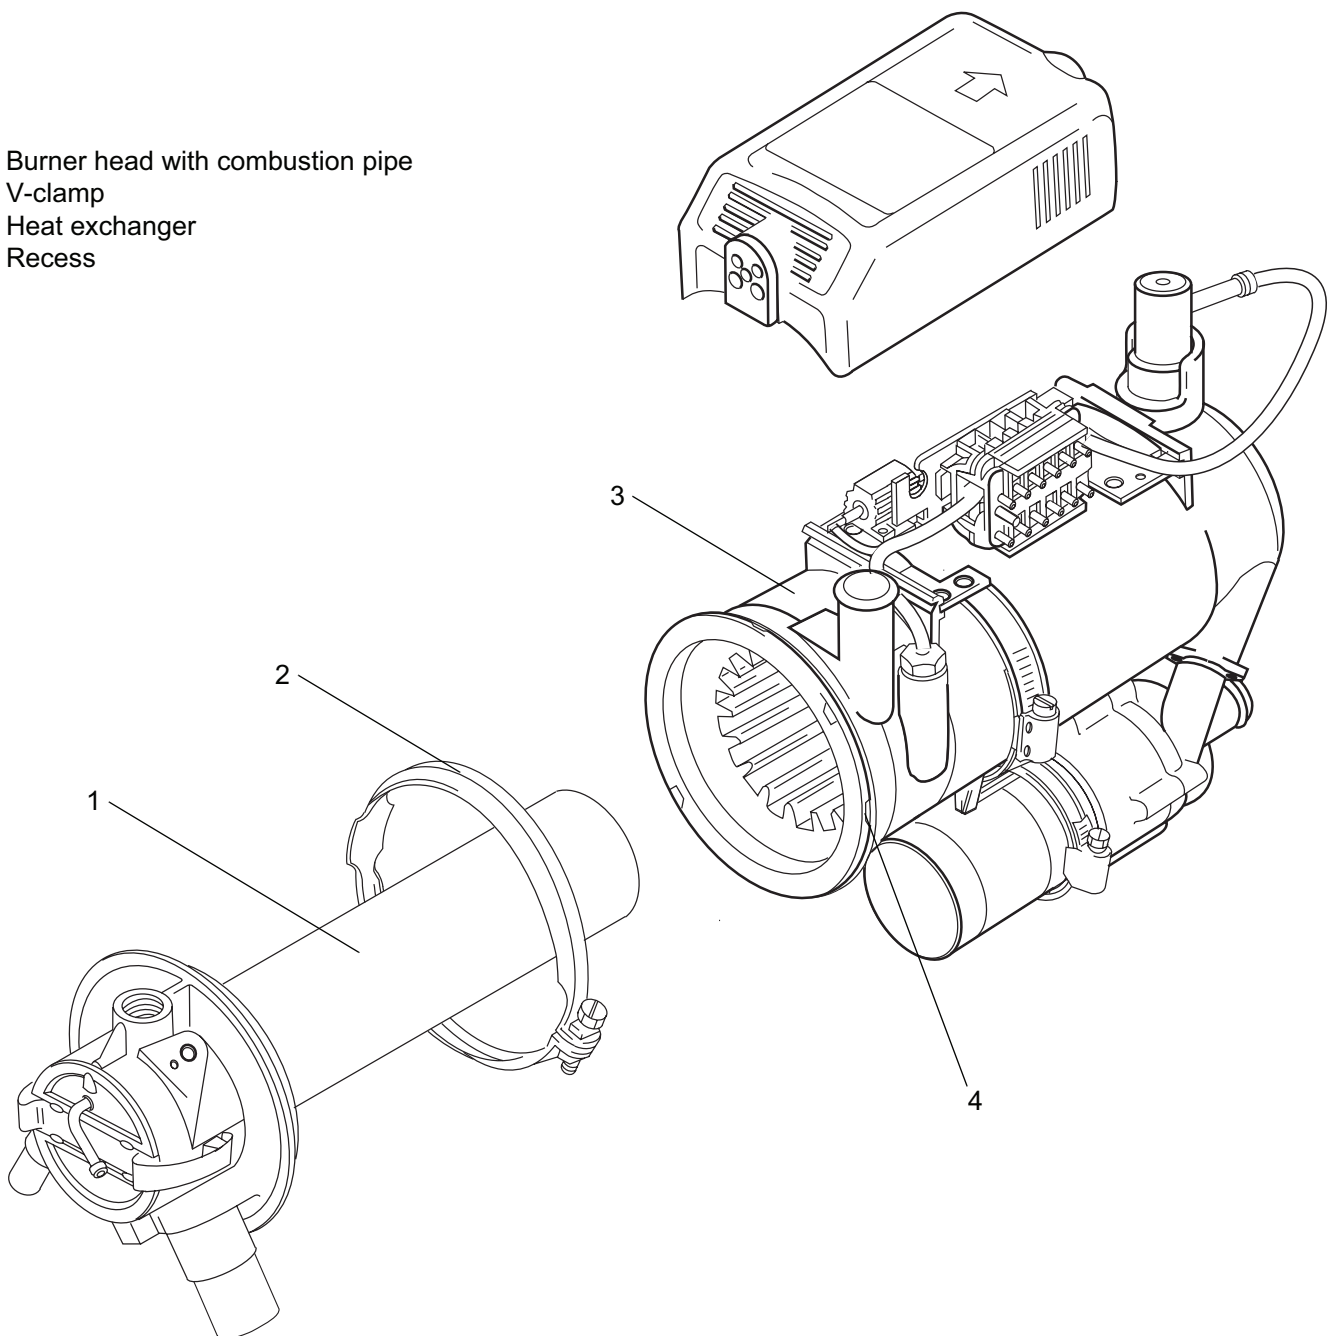

Fig. 906 Replacement of Burner Head with Combustion Pipe
6. Remove V-clamp (2, Fig. 906).
7. Engage two screw drivers in recess (4) and lever off burner head (1) and remove.
1. Locate burner head (1, Fig. 906) with combustion pipe for assembly. Apply Copaslip (Ident. No. 105898) between burner head and heat exchanger (3).
2. Slide burner head (1) with combustion pipe into heat exchanger (3) and align as required.